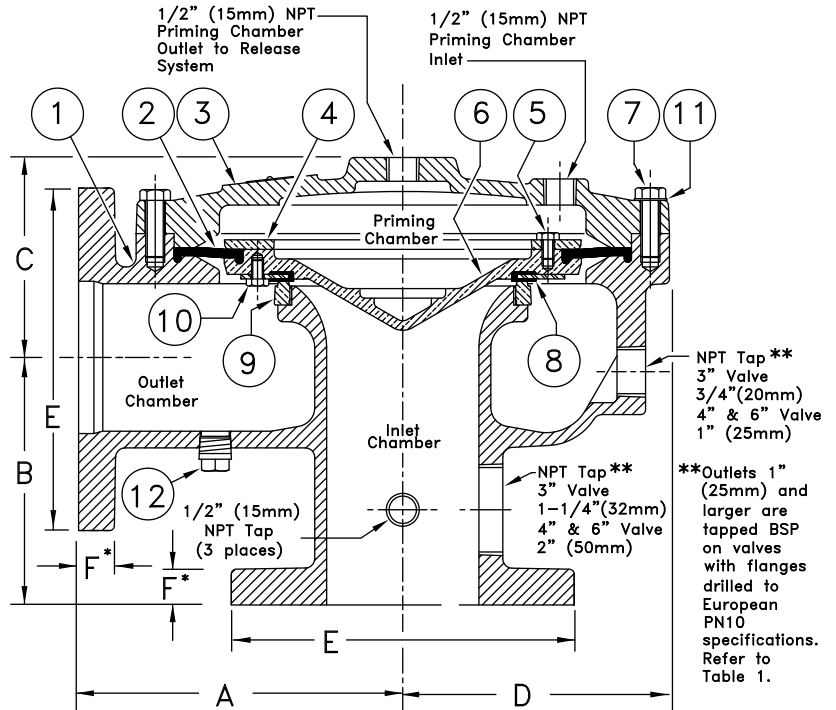

Figure 2 - Replacement Parts
3. Remove the cover (3):
- a. Remove each of the cap screws (7) and break the seal of the cover.
- b. Lift the cover (3) off the valve body (1) and gently set it aside.
F. Installing Replacement Parts and Valve Reassembly (Refer to Figure 2.)
- a. Remove the old clapper assembly (2, 4, 5, 6, 7, 8, and 10) by placing a flat head screwdriver between the body (1) and the diaphragm rubber and then lifting the clapper assembly from valve body (1).
- b. Inspect the seat (9).